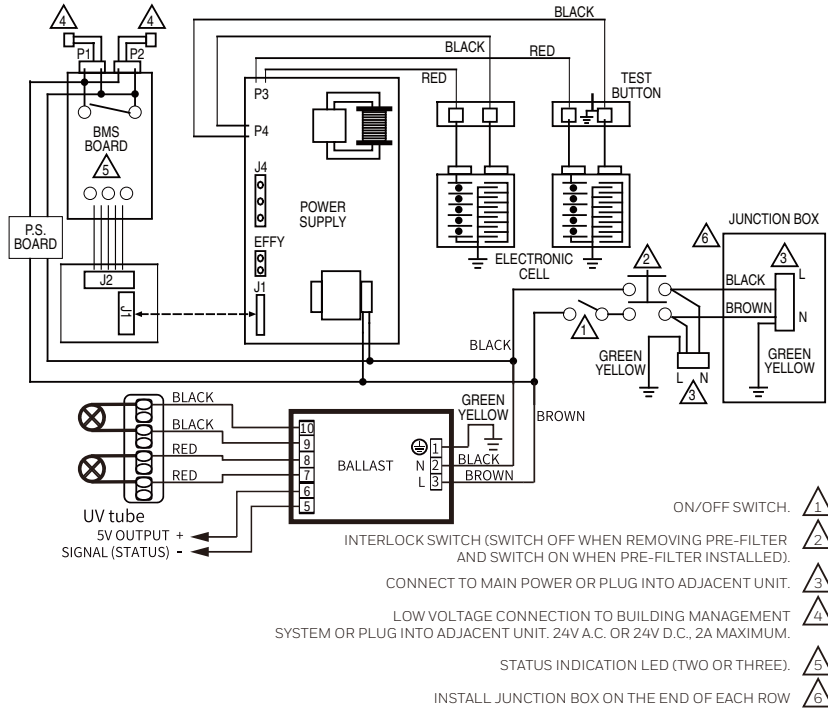
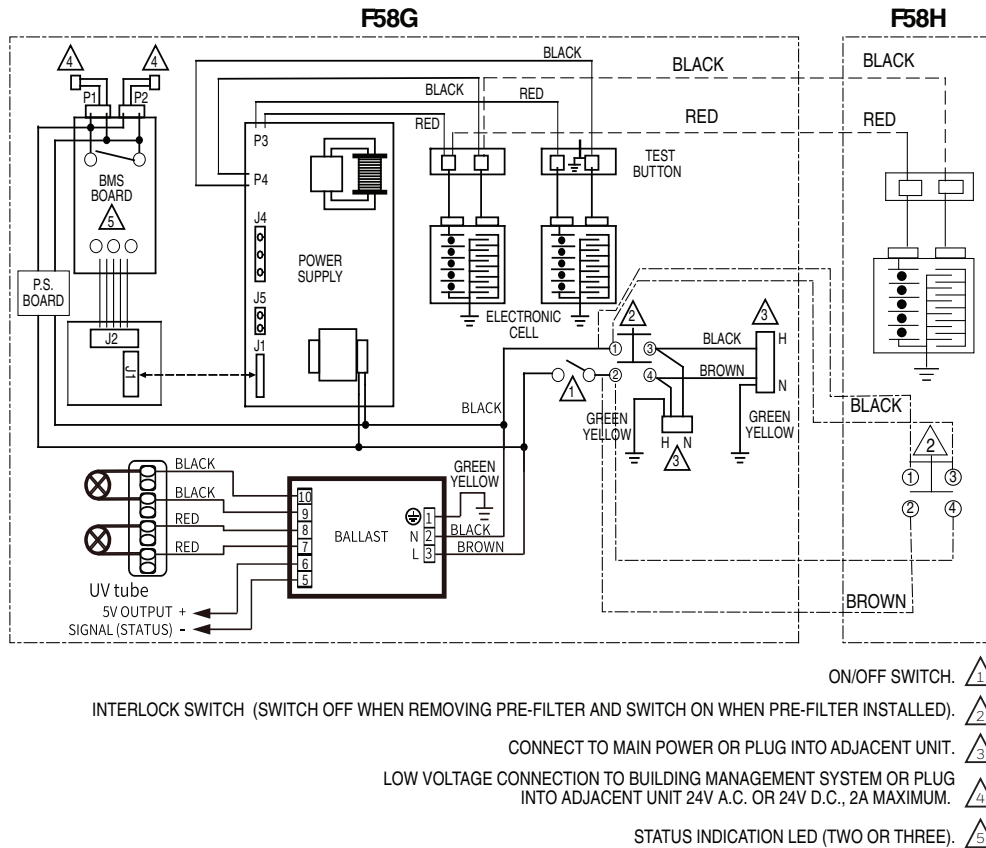

Fig. 8. F58G Internal schematic for F58G Electronic Air Cleaner. Shown with UV lamp (optional).
Fig. 9. Internal schematic for wiring a F58H to a F58G.
- Wire the electronic air cleaner directly to the correct voltage and frequency electrical source. See Fig. 8 and Fig. 9.